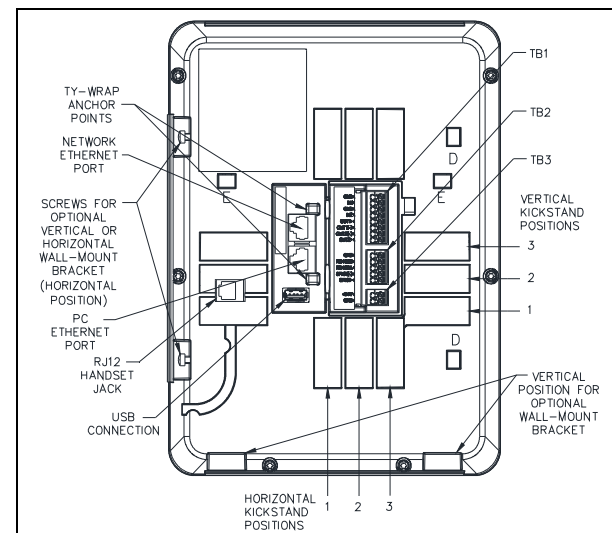

Figure 4. HUBBCOM™ Smart Controller—Rear View
5. Install the kickstand. The kickstand provides four positions in both orientations to suit the situation where it will be used (see Table 1 and Figure 4).
2. Insert one side of the kickstand with the flange properly oriented into the desired position in the rear cutout (see Figure 4).
5. Remove the two #8 × ½-inch mounting bracket screws from the bottom of the rear panel and set aside (see Figure 4).
7. With the proper orientation for the unit's configuration, angle the unit to hook it onto the top flange brackets (D-D or E-E, see Figure 4), then rotate and slide it downward until it rests on the mounting bracket.
7. Remove the two #8 × ½-inch mounting bracket screws from the bottom of the rear panel and set aside (see Figure 4).
9. With the proper orientation for the unit's configuration, angle the unit to hook it onto the top flange brackets (D-D or E-E, see Figure 4), then rotate and slide it downward until it rests on the mounting bracket.
The Hubbcom™ Smart Controllers are equipped with two Ethernet ports. The port furthest from the USB port must be used to connect to the Ethernet network. The port closest to the USB port can be used to connect a PC (see Figure 4).
2. (Optional) Plug an Ethernet cable from a PC into the remaining RJ45 jack (see Figure 4).